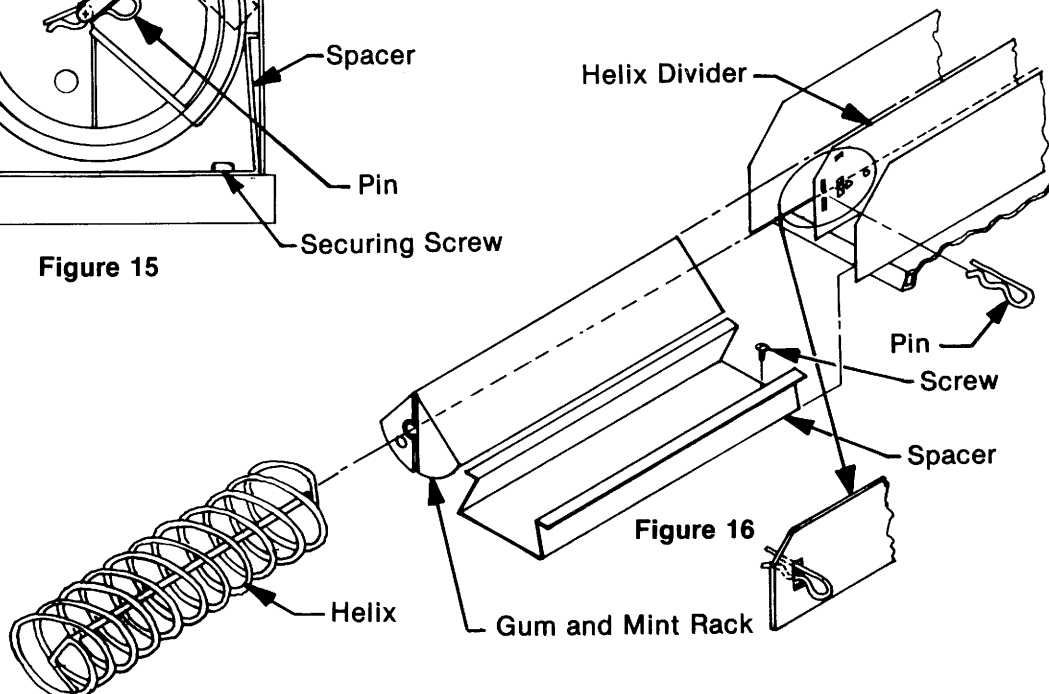

Figure 16
3. Slide gum and mint rack onto the helix driver and hold in place by installing pin through hole in divider as shown in Figure 16.